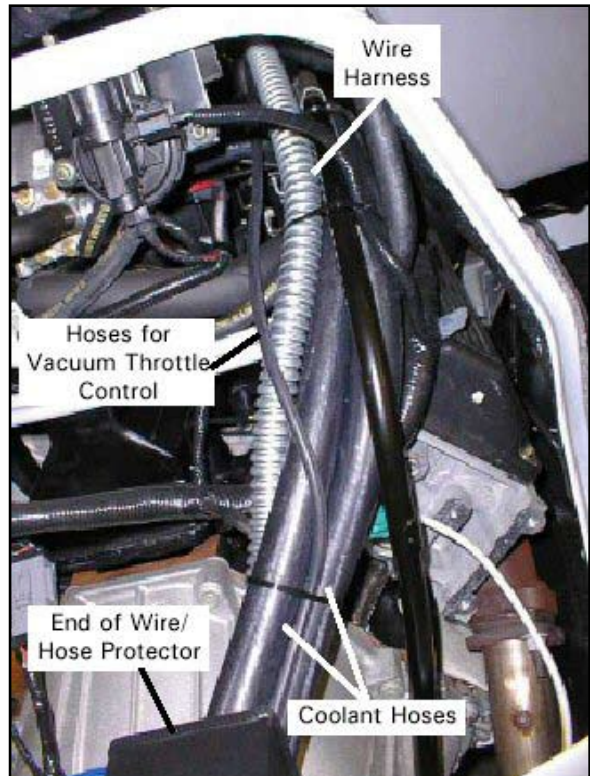

Figure 22. Install Wire Harness
1. The wire harness will follow the same path as the heat exchanger coolant hoses. Feed the molded plug on harness from the front of the van, over top passenger side of motor. Feed the harness until the two white ground wires with ring terminals are in line with the ground lug located on the power pack (passenger side). Attach wires to ground lug. See Figure 22.